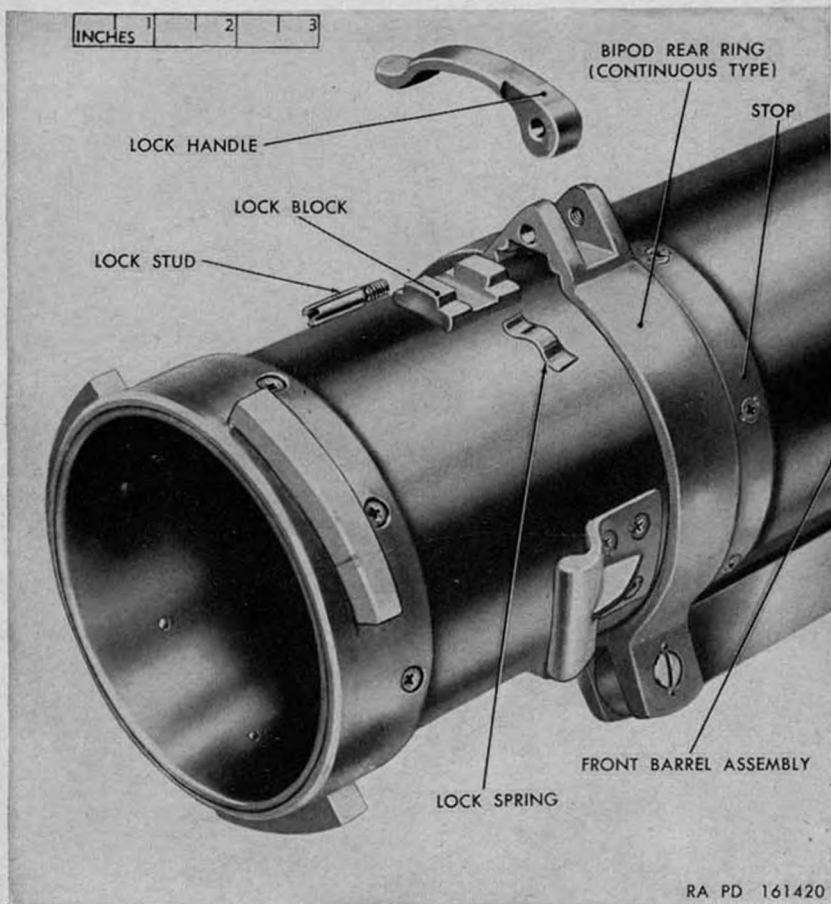
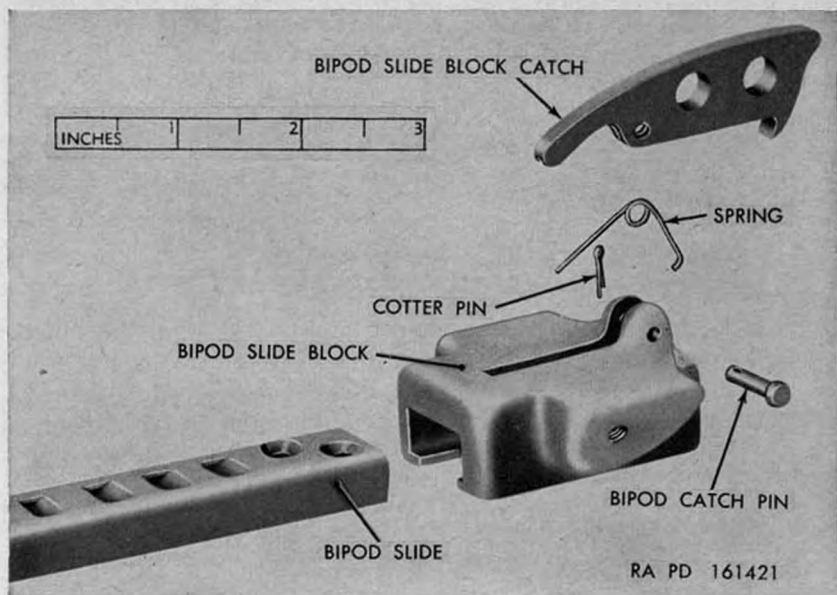

Figure 51. Rear ring lock parts—exploded view.
Figure 52. Bipod slide block catch—exploded view.
- (2) Pull the free side away from the trip pin and remove the spring.
- (3) Remove the other cotter pin and pull the trip pin in the other direction to free the trip. Be careful, again, not to let the trip spring fly out. Remove the trip spring.
- (4) There is not enough clearance to withdraw the trip pin from the slide. To remove the trip pin, it is necessary to remove the two mounting screws fastening the slide to the bipod front ring. Move the front ring forward on the barrel until it is out of the way, and withdraw the trip pin from the slide.
d. Bipod Rear Ring Lock (Continuous Ring Type) (fig. 51).
- (1) Release the lock (par. 19b) and unscrew the lock stud.
- (2) Removing the lock stud frees the lock handle, and lifting the lock handle from the rear ring frees the lock spring and block so that they can be withdrawn from the rear ring.
e. Bipod Slide Block Catch (fig. 52).
- (1) Release bipod slide block catch from notch in bipod slide.
- (2) Remove the cotter pin and withdraw the bipod catch pin. This action will free the bipod slide block catch and spring.
- (4) Push the trip pin through to the other side, until only one-quarter inch of the end protrudes from the slide. Slip the other trip spring on the pin.
- (5) Push the trip up in position to receive the other end of pin. Withdraw the pin, as required, to afford clearance for the trip to be pushed into place.
- (6) Push the trip pin through into its proper position and install two new cotter pins.
- c. *Bipod Rear Ring Lock* (fig. 51).
- (1) Place the lock spring in its groove in the lock block. The spring should lie arch up.
- (2) Face the lock block so that its groove is parallel to face of the rear ring, and slide the block (with the spring) into the rectangular opening at the top of the ring.
- (3) Hold the lock handle vertically over the bipod rear ring with its hole end down, facing so that its main curvature is to the right of the front barrel. Insert the lower end of the handle between the ears, at the top of the rear ring. It may be necessary to shift the block slightly to fit the handle in its groove.
d. *Bipod Slide Block Catch* (fig. 52). Place the catch spring in the catch, so that the long arm of the spring fits in the slot of the catch at the lever end. Place the catch (with spring) in position